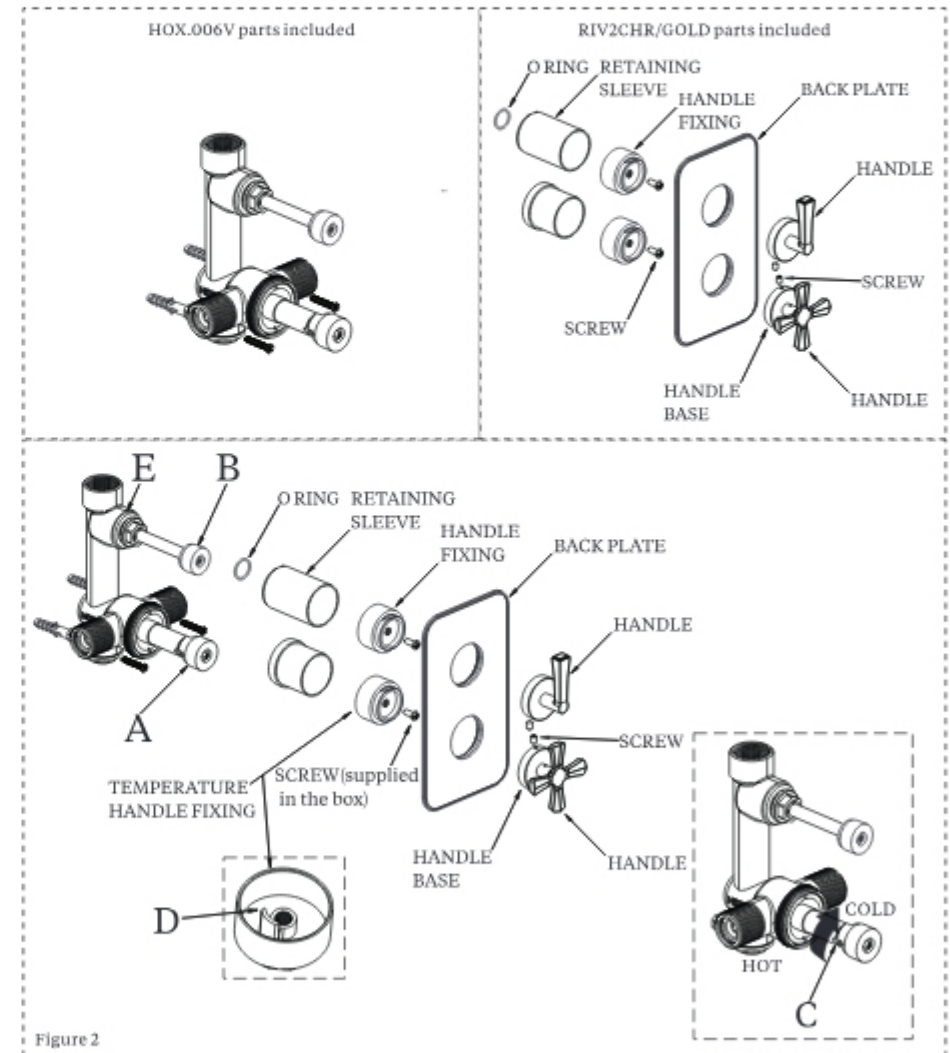

Figure 2
2. Parts should be assembled in sequence illustrated by Figure2.